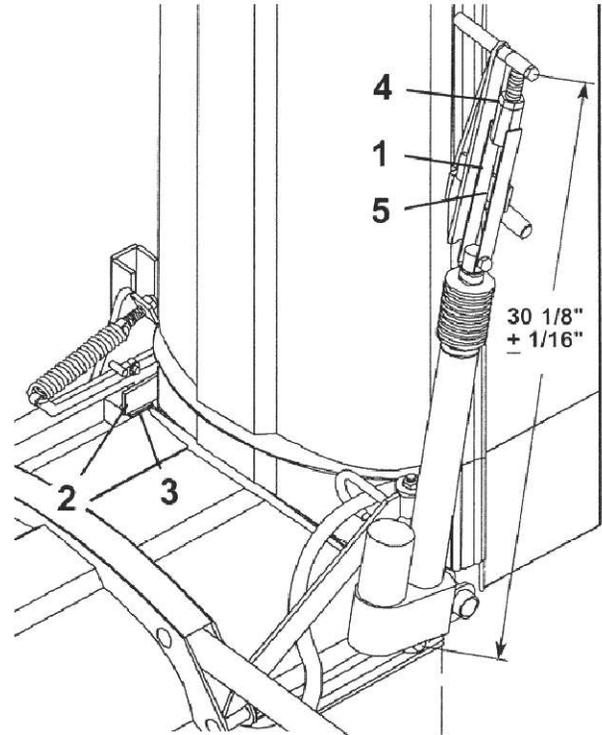

Figure 17
8. Use the Up/Down switches to raise the boom extension to the upright position until the Stop on the front corner of the boom extension just makes contact with the center boom contact pad (Fig. 17).
9. Measure the length of the Actuator and adjustment link . It should be 30-1/8 inch, + 1/16 inch from the center of the actuator assembly bolt to the center of the actuator link bolt (Fig. 17).
11. Install actuator link to actuator arm using the bolt and locknut removed previously. Tighten the jam nut to secure the assembly and ensure the link rests square on the actuator link stop (Fig. 17).